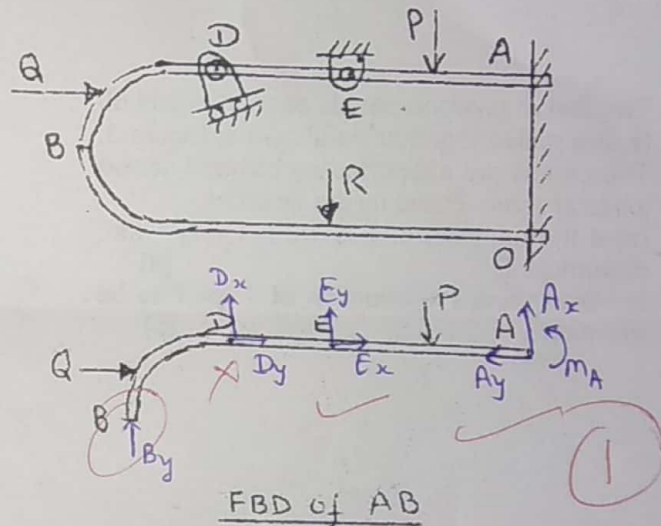

Figure 1 (b)
1. (c) A truss is loaded as shown in Figure 1(c). Identify the zero force members which can be located by inspection. [4]